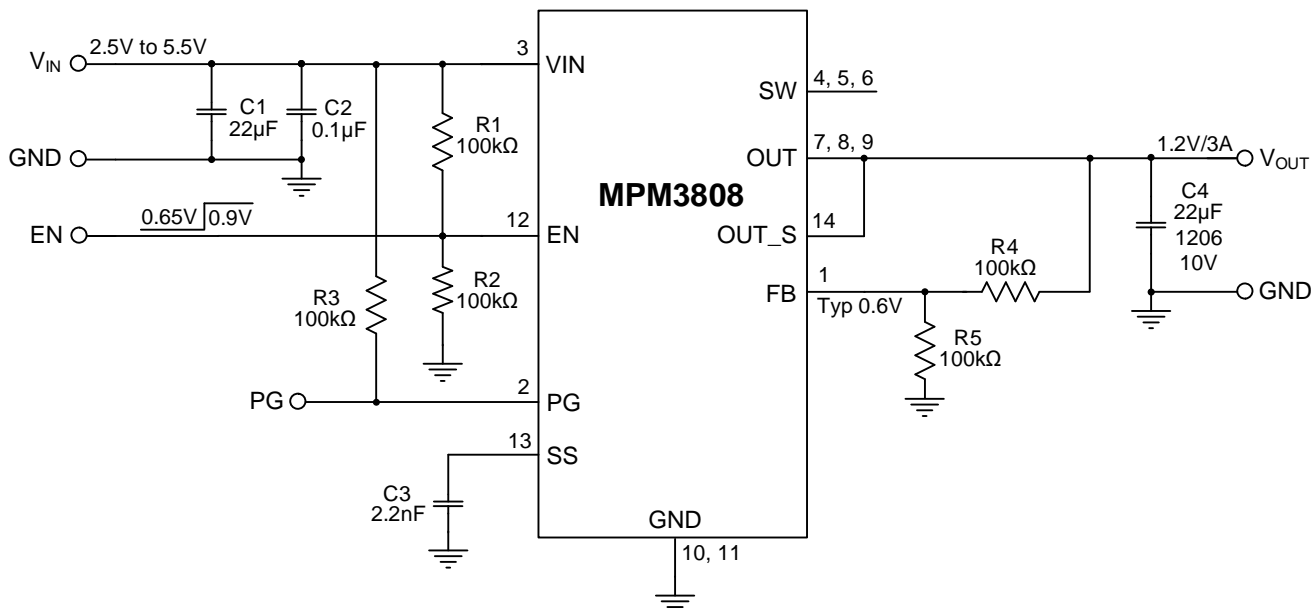

Figure 11: Typical Application (Adjustable Output, $V_{OUT} = 1.2V$)
- 9) The recommended PCB layout is based on Figure 11 on page 25.